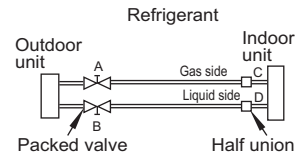

Fig.19
- Sufficiently tighten the flare nut with fingers, and then tighten it with a spanner and torque wrench as shown in Fig.19 & 17.